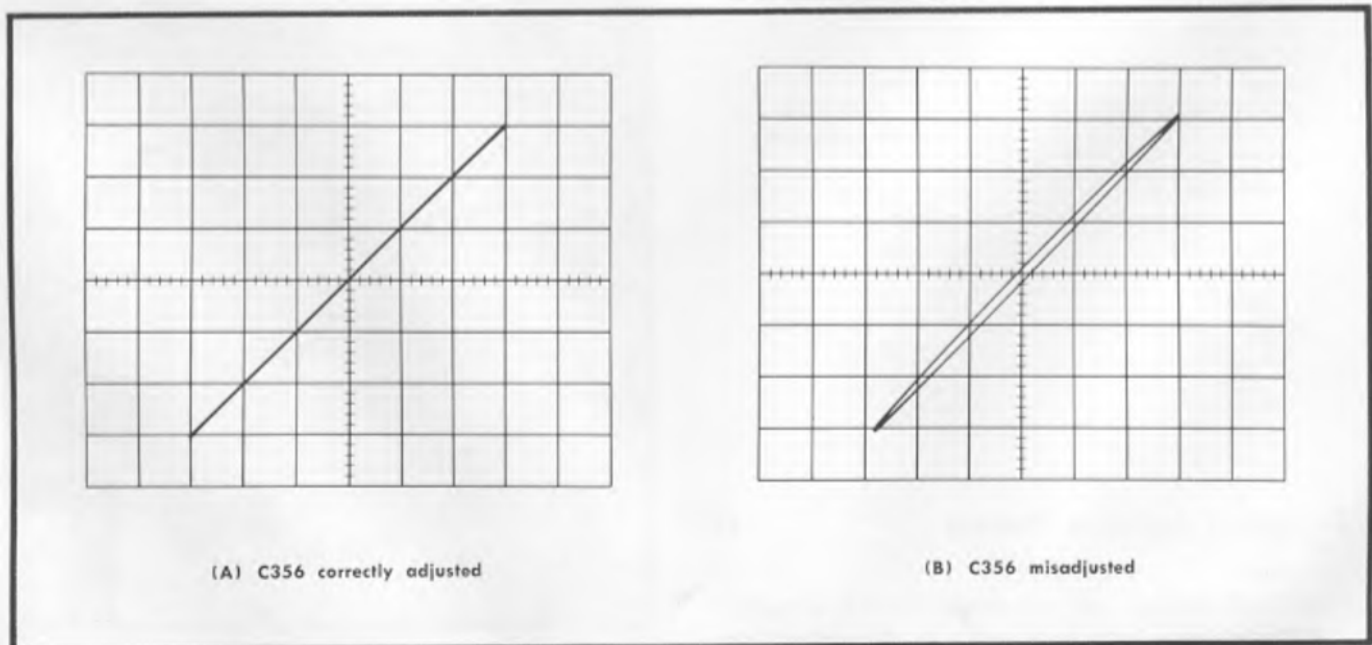

Fig. 6-27. Typical displays, amplifier phasing adjustment.
p. Change the VERTICAL -INPUT switch to DC. The trace will change to a straight line or flattened ellipse at a 45° angle across the CRT screen. See Fig. 6-27 for typical displays.